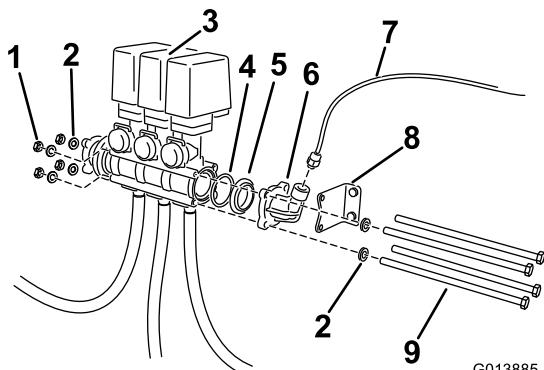

**Figure 3**
1. Loosen, but do not remove, the bolts securing the boom valve assembly to the mount bracket (Figure 3).